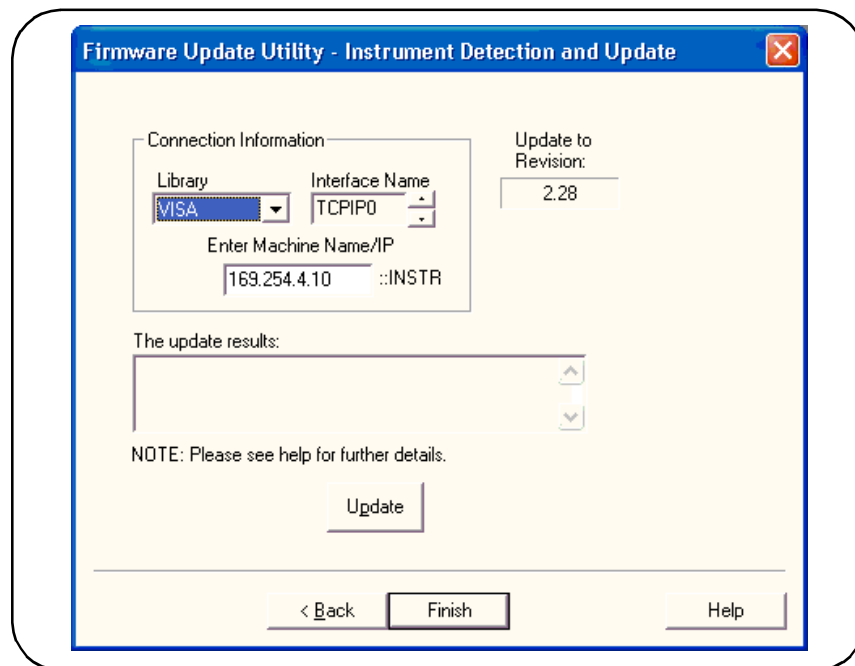

Figure 2-18. Specifying the Instrument Address.
3. Select the I/O interface name and then select 'Next'. Enter the machine name, IP address, GPIB address, or Alias as prompted (Figure 2-18). Select 'Update' to start the update process.